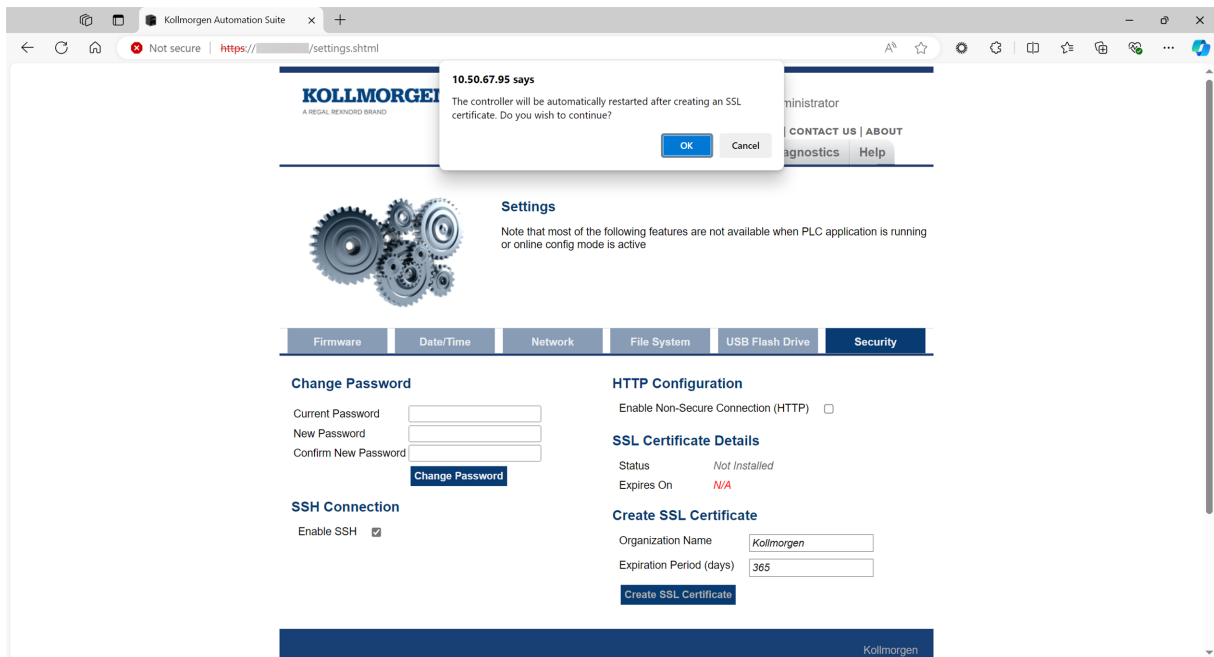

Figure 9-20: Confirmation message
- c. Click the **Create SSL Certificate** button. A confirmation message appears. (Figure 9-20)